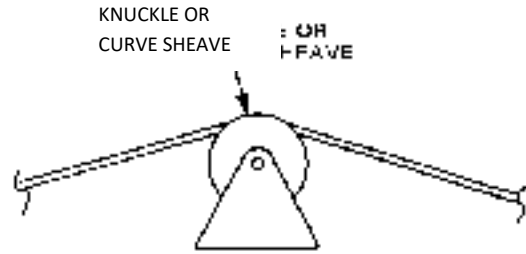

Figure 2 **Figure 2**
2. A knuckle or curve sheave which supports the rope where it changes direction. (See Figure 2)